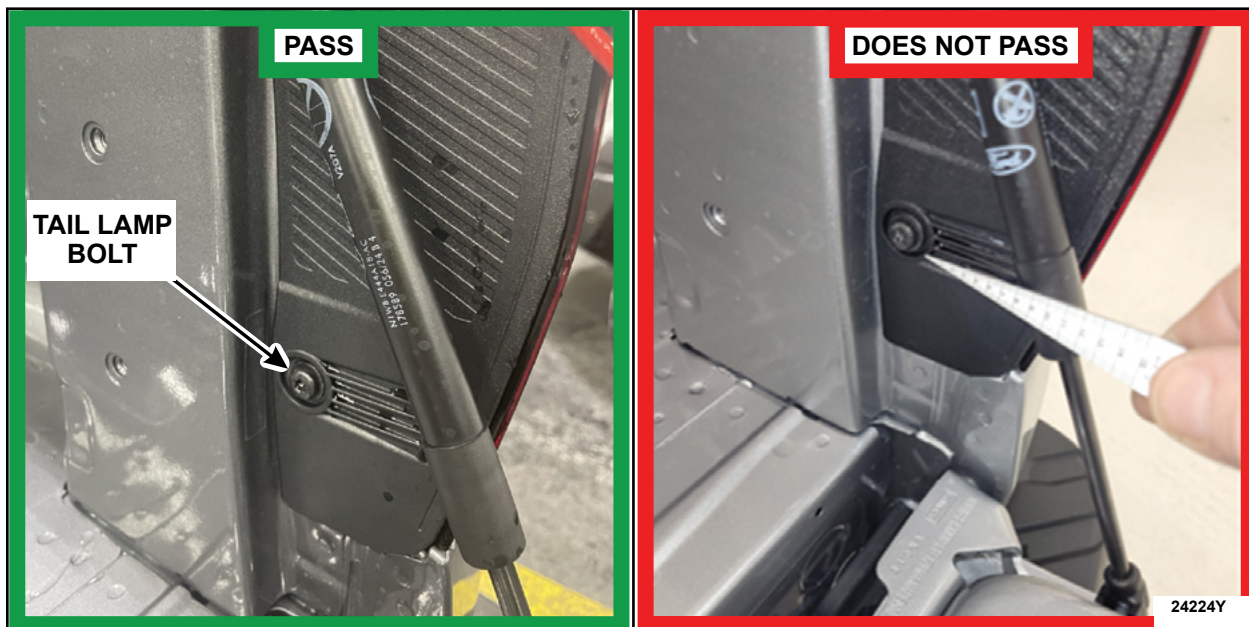

FIGURE 12
18. Visually verify that there is no gap between the bolt and tail lamp plastic surface. See Figure 12.